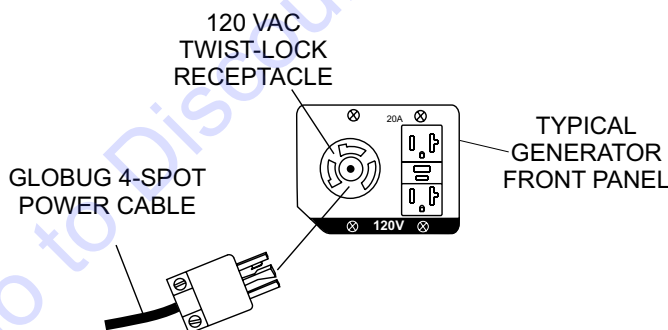

Figure 14. 120 VAC Receptacle
2. The GB43LED has a power requirement of 120 VAC, 60 Hz @ 11 amps. Connect the AC power cord to the 120 VAC twist-lock receptacle (Figure 14) on the supplied generator.